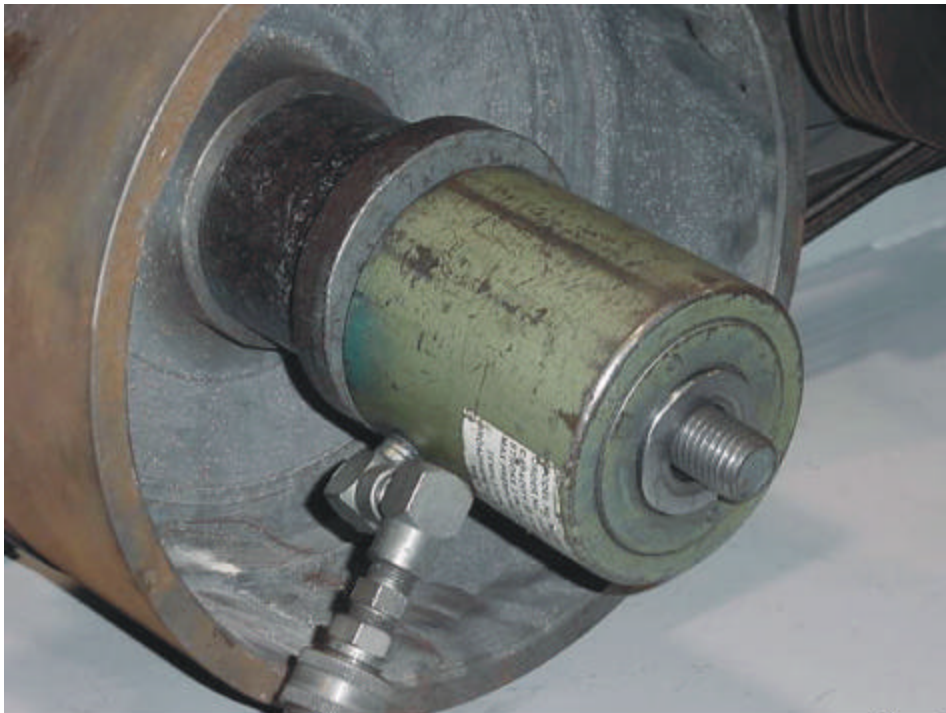

Figure 3
6) Install Hollow Bore Ram. Figure 3